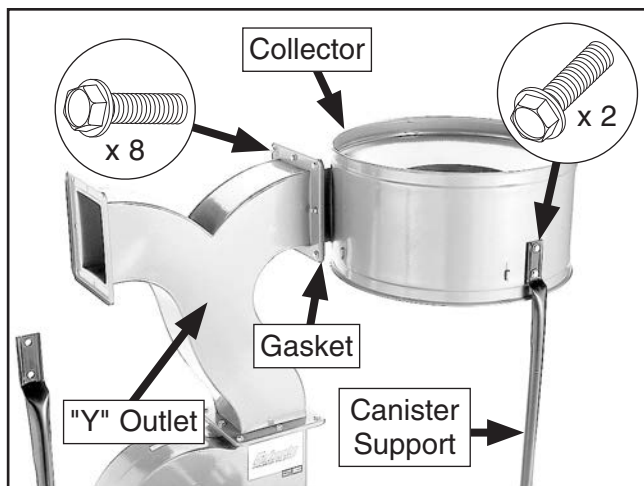

Figure 16. Collector installed.
7. With assistance, place one of the rubber gaskets around the rim of the intake on one of the collectors, then secure the collector to the metal "Y" outlet with (8) $\frac{5}{16}$ "-18 x $\frac{1}{2}$ " flange bolts (see **Figure 16**).
8. Attach the top of the canister support to the collector with (2) $\frac{5}{16}$ "-18 x $\frac{1}{2}$ " flange screws, as shown in **Figure 16**.